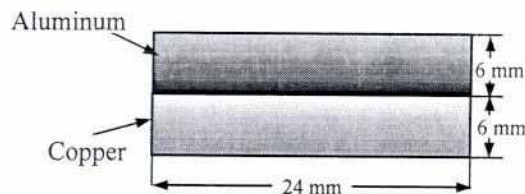

Fig. 4
- Q4 (a) A copper strip ($E_{cu} = 105 \text{ GPa}$) and an aluminum strip ($E_{al} = 75 \text{ GPa}$) are bonded together to form the composite beam, having cross-sectional dimensions as shown in Fig. 4. Knowing that the beam is bent about a horizontal axis by a bending moment of 35 N-m . Find the maximum stresses in aluminum and copper. Also plot the distribution of stress across the section.